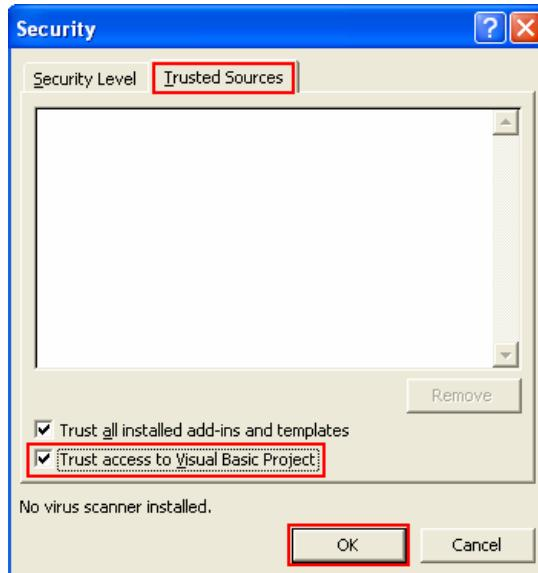

Figure 1: Security Dialog Box
2. Click the **Trusted Sources** tab, select the **Trust access to Visual Basic Project** check box, and then click **OK**, as shown in Figure 1